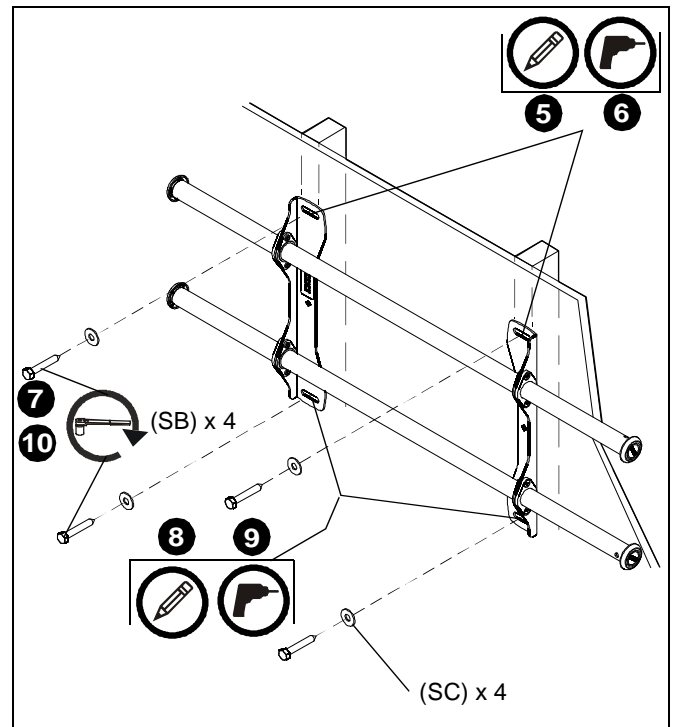

Figure 2
5. Using a level, mark the wall on each stud to attach the mount through the upper mounting slots. (See Figure 2)
7. Use two 5/16 x 2-1/2" lag bolts (SB) and two 5/16" flat washers (SC) to attach top of mount to wall. (See Figure 2)
8. Mark the attachment points for the lower mounting slots, making sure the attachment points are located on the studs. (See Figure 2)
9. Drill 7/32" (5.5mm) pilot holes at markings for lower mounting holes. (See Figure 2)
10. Use two 5/16 x 2-1/2" lag bolts (SB) and two 5/16" flat washers (SC) to attach the mount to the wall through the lower mounting holes. (See Figure 2)